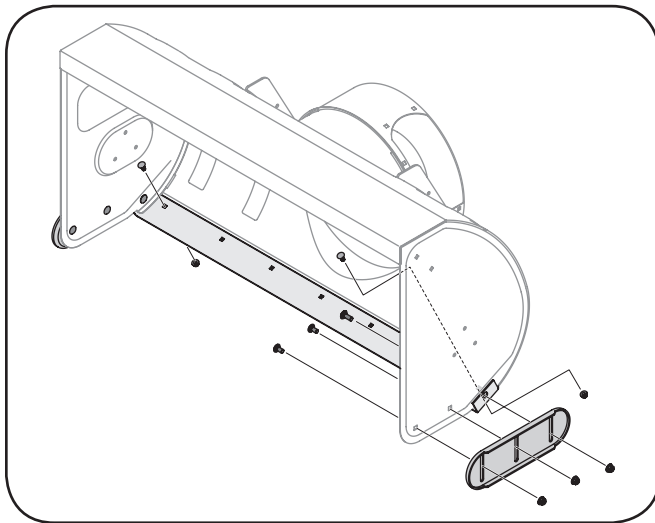

Figure 6-5
1. Remove the six carriage bolts, flat washers and hex nuts that secure the two skid shoes to the sides of the auger housing. Refer to Figure 6-5.
1. Remove the hex nuts and carriage bolts that secure the shave plate to the bottom of the housing. See Figure 6-5.